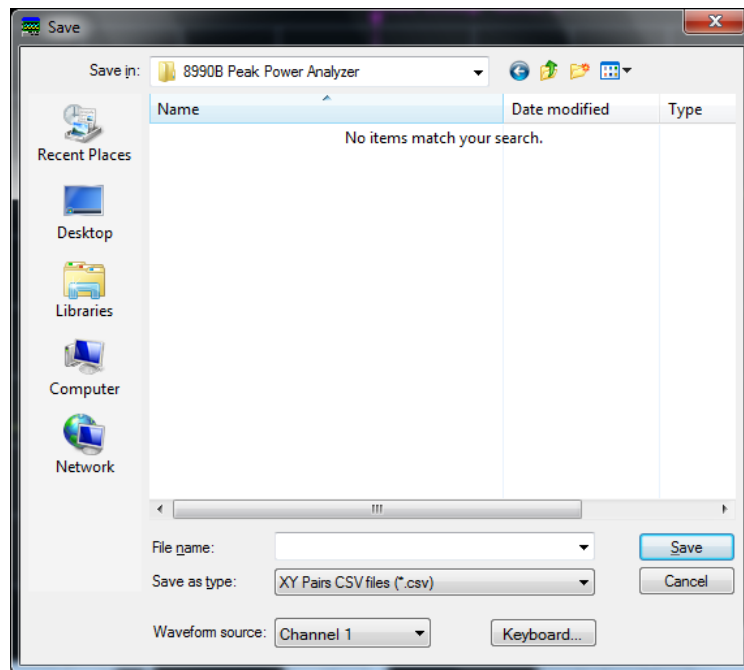

Figure 2-96 Save multipulse dialog
- 2 The Save dialog is displayed as shown in Figure 2-96. You can select the input channel to be saved by selecting **Waveform Source** to display the input channel list.